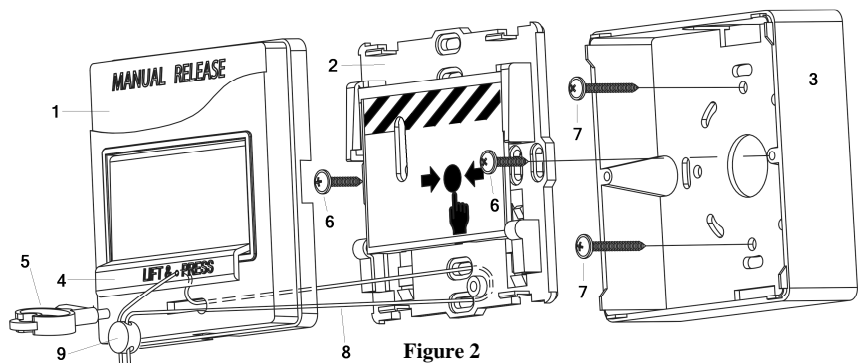

Figure 2
The disassembled UDP is shown in Figure 2. The UDP is to be mounted using the two screws to a flat vertical surface in accordance with your applicable local standards, codes, regulations, and ordinances. The installation order is as follows.
2.6.5. Reset the UDP to its Norm state by inserting the special key provided (5 in Figure 2). Verify the UDP LED starts flashing once per 4 s. From the panel or PC issue a command to cancel the alarm sent by the UDP.